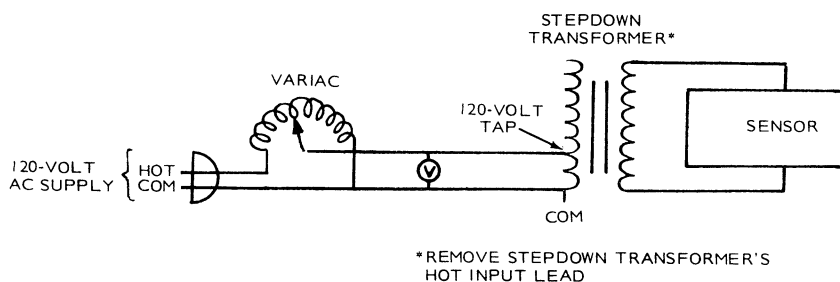

FIGURE 27. CONNECTION OF VARIAC TO STEPDOWN TRANSFORMER
12. If available, connect an Onan Multi-Tester to the transformer terminal strip and to the wire lead removed in Step 11 (using the instructions with the Multi-Tester). If using a variac, connect its common output lead to transformer T2-1 (com) and its other output lead to transformer terminal 2 (120-volt connection). See Figure 27.
11. If available, connect an Onan Multi-Tester to the transformer terminals of the terminal strip and the wire lead removed using the instructions in the Multi-Tester. If using a variac, connect its common output lead to transformer T2-1 (com) and its other output lead to terminal 2 (120-volt connection). See Figure 27.